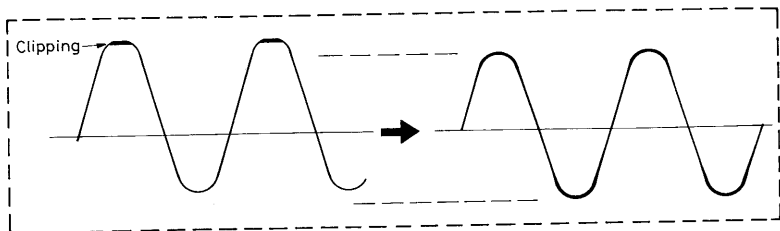

Fig. 4
① Connect the distortion meter to the speaker terminals with the volume control turned to maximum.	① Connect the oscilloscope to the speaker terminals with the volume control turned to maximum.
② Keep R351 of the power limiter circuit fully turned to the left.	② Keep R351 of the power limiter circuit fully turned to the left.
③ Apply 1 kHz signal to the set so that the output is clipped to 5% distortion.	③ Apply 1 kHz signal to the set that the output reaches the clip point.
④ Adjust R350 so that the output distortion is reduced to minimum.	④ Adjust R350 so that the waveform becomes vertically symmetrical. (Fig. 4)